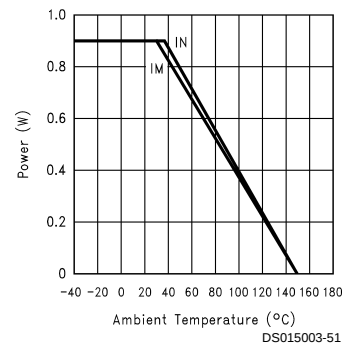

FIGURE 12. Power Derating Curve
3. Calculate the total RMS power: $P_t = P_{amp} + P_O$. The maximum power that the DIP and SOIC packages can dissipate at a given temperature is illustrated in *Figure 12*. The power derating curve for any CLC5632 package can be derived by utilizing the following equation: